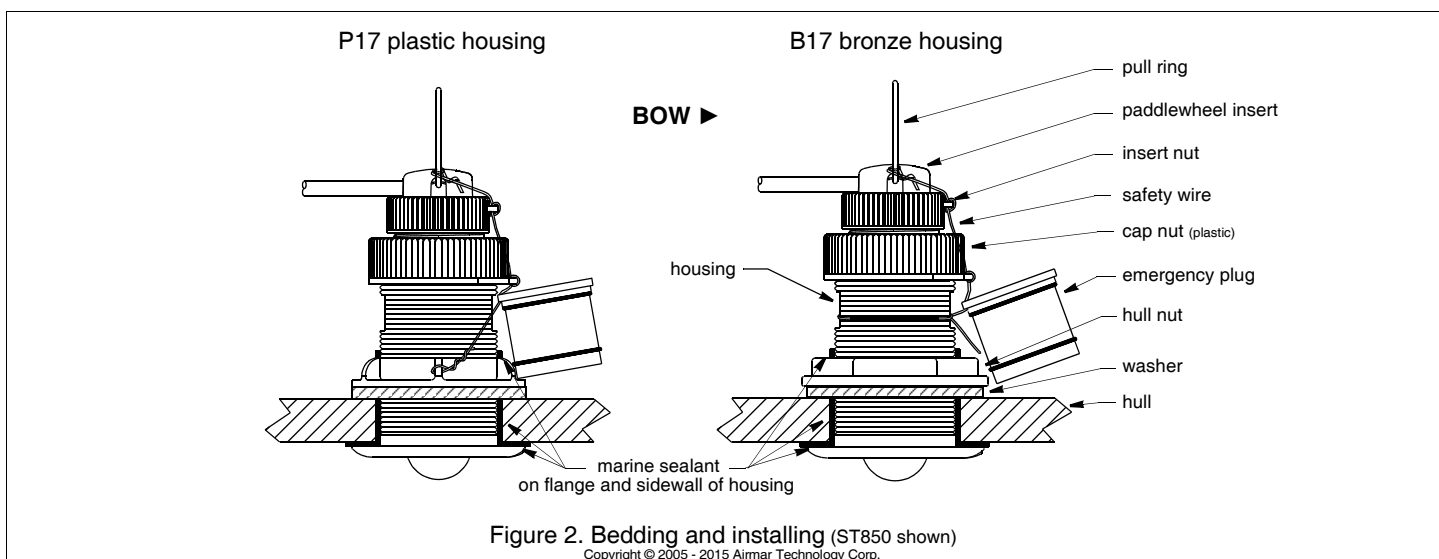

Figure 2. Bedding and installing (ST850 shown)
Apply a 2mm (1/16") thick layer of marine sealant around the flange of the housing that will contact the hull and up the sidewall of the housing (Figure 2). *The sealant must extend 6mm (1/4") higher than the combined thickness of the hull, washer(s), and hull nut.* This will ensure there is sealant in the threads to seal the hull and to hold the hull nut securely in place.
1. From outside the hull, push the housing into the mounting hole using a twisting motion to squeeze out excess sealant (Figure 2).
10. Always attach the safety wire to prevent the insert from backing out in the unlikely event that the insert nut and/or cap nut fails or is screwed on incorrectly (Figure 2).
3. Remove the insert from the housing by removing the safety wire from the pull ring and the INSERT nut. Unscrew the INSERT nut (Figure 2). *Do not remove the CAP nut.*
6. Reattach the safety wire to prevent the *long* blanking plug from backing out in the unlikely event that the insert nut and/or cap nut fails or is screwed on incorrectly (Figure 2).
1. Remove the *short emergency plug* from the safety wire (Figure 2).
5. Secure the *short emergency plug* with the cap nut. **Hand tighten** only. Do not over tighten. Reattach the safety wire (Figure 2).
10. Attach the safety wire to the *short emergency plug*, the cap nut, the insert nut, and the pull ring to prevent the insert from backing out in the unlikely event that the insert nut and/or cap nut fails or is screwed on incorrectly (Figure 2).